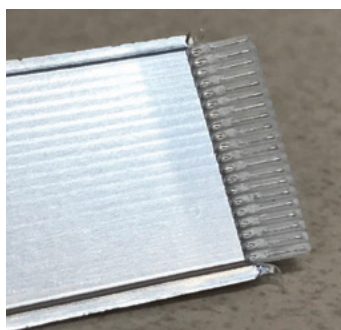

Figure 13
- Insulation of exposed ribbon cable should not be scrapped or sliced. See Figure 13.